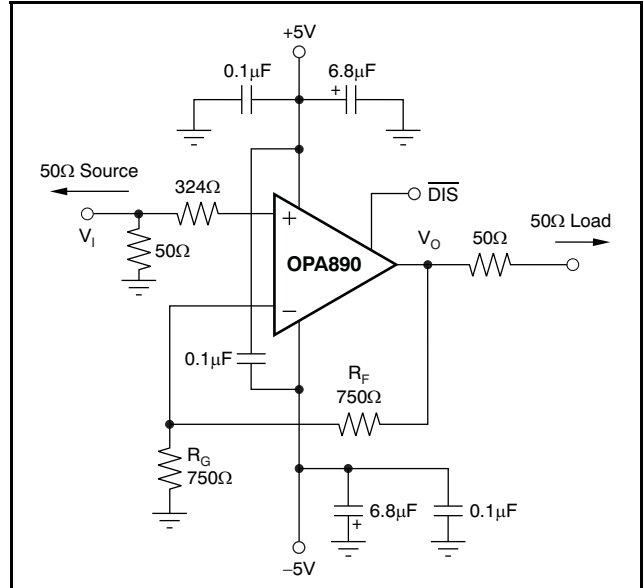
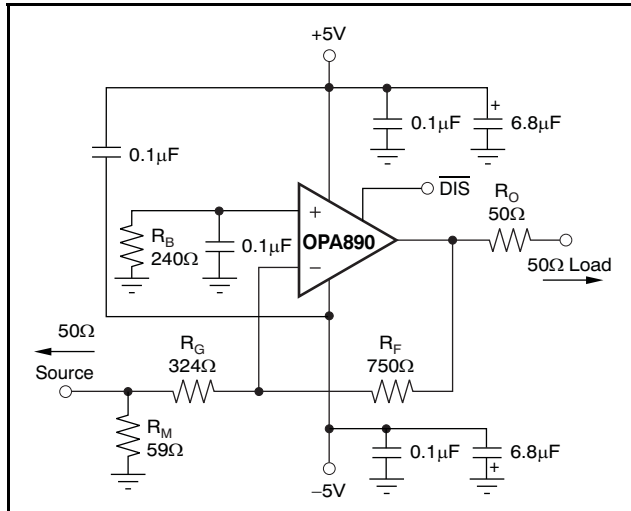

Figure 46. DC-Coupled, G = +2, Bipolar Supply, Specification and Test Circuit
Figure 51. Gain of $-2V/V$ Example Circuit
Figure 46 shows the dc-coupled, gain of +2, dual power-supply circuit configuration used as the basis of the ±5V Electrical Characteristics and Typical Characteristics. For test purposes, the input impedance is set to 50Ω with a resistor to ground and the output impedance is set to 50Ω with a series output resistor. Voltage swings reported in the Typical Characteristics are taken directly at the input and output pins, while output powers (dBm) are at the matched 50Ω load. For the circuit of Figure 46, the total effective load will be 100Ω || 1.5kΩ. The disable control line is typically left open to ensure normal amplifier operation. Two optional components are included in Figure 46. An additional resistor (324Ω) is included in series with the noninverting input. Combined with the 25Ω dc source resistance looking back towards the signal generator, this configuration gives an input bias current cancelling resistance that matches the 375Ω source resistance seen at the inverting input (see the DC Accuracy and Offset Control section). In addition to the usual power-supply decoupling capacitors to ground, a 0.1μF capacitor is included between the two power-supply pins. In practical printed circuit board (PCB) layouts, this optional-added capacitor typically improves the 2nd-harmonic distortion performance by 3dB to 6dB.
Voltage-feedback op amps exhibit decreasing closed-loop bandwidth as the signal gain is increased. In theory, this relationship is described by the gain bandwidth product (GBP) shown in the *Electrical Characteristics*. Ideally, dividing GBP by the noninverting signal gain (also called the noise gain, or NG) predicts the closed-loop bandwidth. In practice, this relationship only holds true when the phase margin approaches 90° , as it does in high-gain configurations. At low gains (increased feedback factors), most amplifiers exhibit a more complex response with lower phase margin. The OPA890 is compensated to give a slightly peaked response in a noninverting gain of 2V/V (see Figure 46). This compensation results in a typical gain of $+2\text{V/V}$ bandwidth of 115MHz , far exceeding that predicted by dividing the 130MHz GBP by 2. Increasing the gain causes the phase margin to approach 90° and the bandwidth to more closely
The OPA890 is a general-purpose, wideband voltage-feedback op amp; therefore, all of the familiar op amp application circuits are available to the designer. Inverting operation is one of the more common requirements and offers several performance benefits. Figure 51 shows a typical inverting configuration where the I/O impedances and signal gain from Figure 46 are retained in an inverting circuit configuration.
In the inverting configuration, three key design considerations must be noted. First, the gain resistor (R_G) becomes part of the signal channel input impedance. If input impedance matching is desired (which is beneficial whenever the signal is coupled through a cable, twisted-pair, long PCB trace, or other transmission line conductor), R_G may be set equal to the required termination value and R_F adjusted to give the desired gain. This approach is the simplest, and results in optimum bandwidth and noise performance. However, at low inverting gains, the resultant feedback resistor value can present a significant load to the amplifier output. For an inverting gain of -2V/V , setting R_G to 50Ω for input matching eliminates the need for R_M but requires a 100Ω feedback resistor. This option has the interesting advantage that the noise gain becomes equal to 2V/V for a 50Ω source impedance—the same as the noninverting circuits considered in the previous section. The amplifier output, however, now sees the 100Ω feedback resistor in parallel with the external load. In general, the feedback resistor should be limited to a range of 200Ω to $1.5\text{k}\Omega$. In this case, it is preferable to increase both the R_F and R_G values, as shown in Figure 51, and then achieve the input matching impedance with a third resistor (R_M) to ground. The total input impedance becomes the parallel combination of R_G and R_M .
The second major consideration, touched on in the previous paragraph, is that the signal source impedance becomes part of the noise gain equation and influences the bandwidth. For the example in Figure 51, the R_M value combines in parallel with the external 50Ω source impedance, yielding an effective driving impedance of $50\Omega \parallel 59\Omega = 27\Omega$. This impedance is added in series with R_G for calculating the noise gain (NG). The resulting NG is $3.14V/V$ for Figure 51, as opposed to only 2 if R_M could be eliminated as discussed previously. The bandwidth is therefore slightly lower for the gain of $-2V/V$ circuit of Figure 51 than for the gain of $+2V/V$ circuit of Figure 46.
The third important consideration in inverting amplifier design is setting the bias current cancellation resistor on the noninverting input (R_B). If this resistor is set equal to the total dc resistance looking out of the inverting node, the output dc error (because of the input bias currents) is reduced to $(\text{Input Offset Current}) \times R_F$. If the 50Ω source impedance is dc-coupled in Figure 51, the total resistance to ground on the inverting input is 351Ω . Combining this resistance in parallel with the feedback resistor gives the value of $R_B = 240\Omega$ used in this example. To reduce the additional high-frequency noise introduced by this resistor, it is sometimes bypassed with a capacitor. As long as $R_B < 350\Omega$, a capacitor is not required because the total noise contribution of all other terms is less than that of the op amp input noise voltage. As a minimum, the OPA890 requires an R_B value of 50Ω to damp out parasitic-induced peaking—a direct short to ground on the noninverting input runs the risk of a very high-frequency instability in the input stage.
Evaluating these two equations for the OPA890 circuit and component values (see Figure 46) gives a total output spot noise voltage of 17.4nV/√Hz and a total equivalent input spot noise voltage of 8.7nV/√Hz. This total includes the noise added by the bias current cancellation resistor (175Ω) on the noninverting input. This total input-referred spot noise voltage is only slightly higher than the 8nV/√Hz specification for the op amp voltage noise alone. This result will be the case, as long as the impedances appearing at each op amp input are limited to the previously recommend maximum value of 350Ω. Keeping both (R_F || R_G) and the noninverting input source impedance less than 350Ω satisfies both noise and frequency response flatness considerations. Because the resistor-induced noise is relatively negligible, additional capacitive decoupling across the bias current cancellation resistor (R_B) for the inverting op amp configuration of Figure 51 is not required.
The balanced input stage of a wideband voltage-feedback op amp allows good output dc accuracy in a wide variety of applications. The power-supply current trim for the OPA890 gives even tighter control than comparable amplifiers. Although the high-speed input stage does require relatively high input bias current (+25°C worst case, 1.6μA at each input terminal), the close matching between them may be used to reduce the output dc error caused by this current. The total output offset voltage may be considerably reduced by matching the dc source resistances appearing at the two inputs. This matching reduces the output dc error resulting from the input bias currents to the offset current times the feedback resistor. Evaluating the configuration of Figure 46, and using worst-case +25°C input offset voltage and current specifications, gives a worst-case output offset voltage equal to: